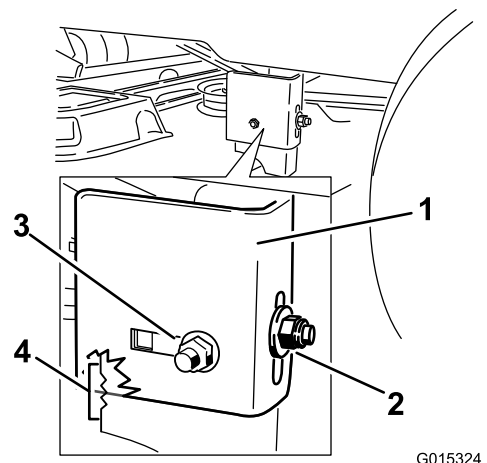

Figure 49
8. Loosen the rear locking nut on the hanger bracket just enough to move the bracket (Figure 49).
10. Stop the deck at the adjusted position and tighten the rear locking nut on the hanger bracket to hold the new position (Figure 49). Tighten the side locking nut on the hanger bracket.